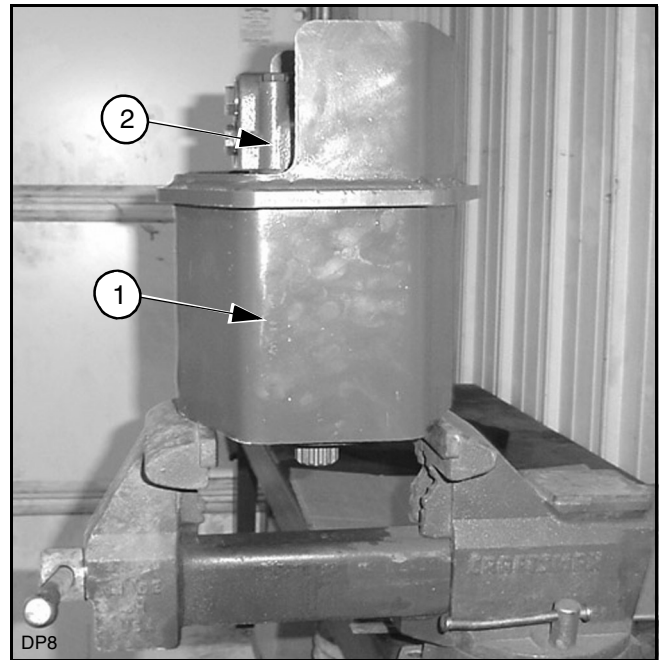

Figure 13.
Place the motor housing into a vice (1). Install the motor and orient the motor ports (2) as shown in Figure 13.